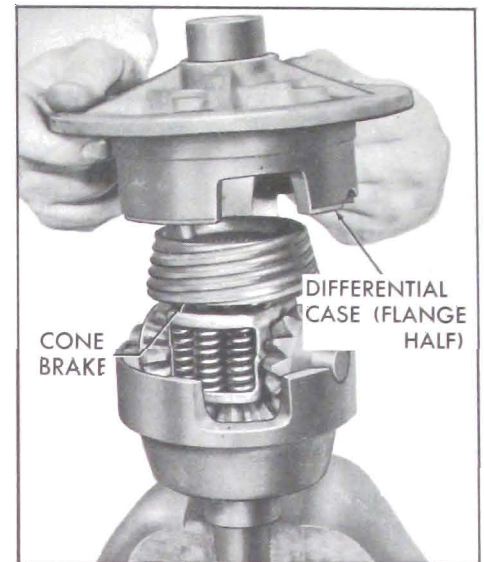

Figure 6-42—Installing Flange Half of Differential Case
8. Install flange side of differential assembly over cone in proper position to match alignment marks; insert two bolts finger tight 180° apart. See Figure 6-42.